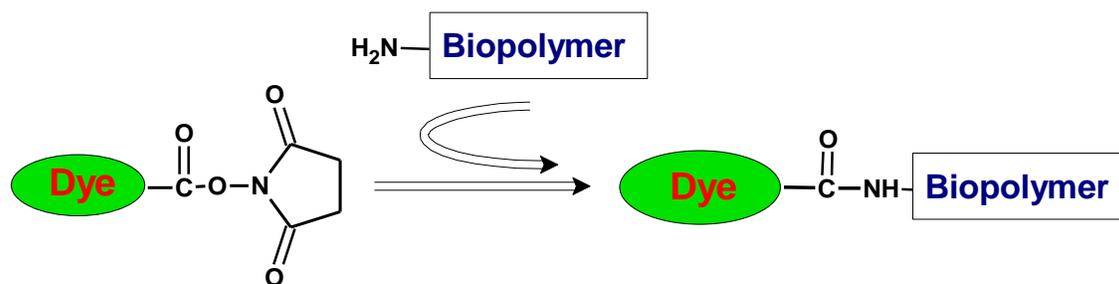

Figure 1. Labeling of an amino group (for instance, a lysine) on a biopolymer (i.e., a protein) with a succinimidyl ester of a dye.
The AnaTag™ HiLyte Fluor™ 488 Protein Labeling Kit provides a convenient way to label proteins by using the succinimidyl ester (SE) reactive form of HiLyte Fluor™ 488. The succinimidyl ester shows good reactivity and selectivity with aliphatic amines of the protein and forms a carboxamide bond, which is identical to, and is as stable as the natural peptide bond (Figure 1). HiLyte Fluor™ 488-protein conjugates can sustain treatments during immunofluorescent staining, fluorescence *in situ* hybridization, flow cytometry and other biological applications without hydrolysis. The kit has all the essential components for performing the conjugation reaction and for purifying the HiLyte Fluor™ 488 -protein conjugates.